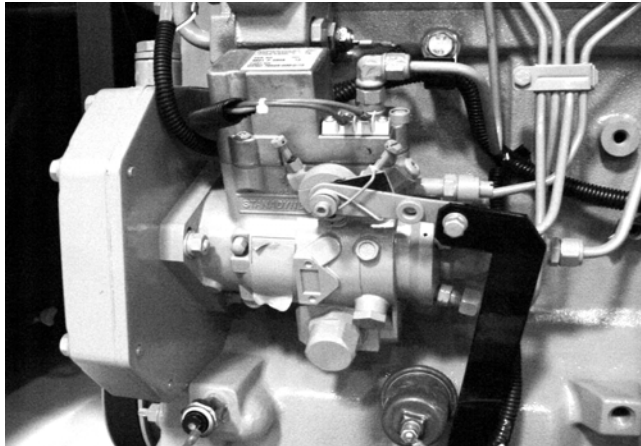

Figure 1 Fuel Injection Pump Assembly
1. Locate the fuel injection pump (FIP) assembly of the unit (Figure 1).